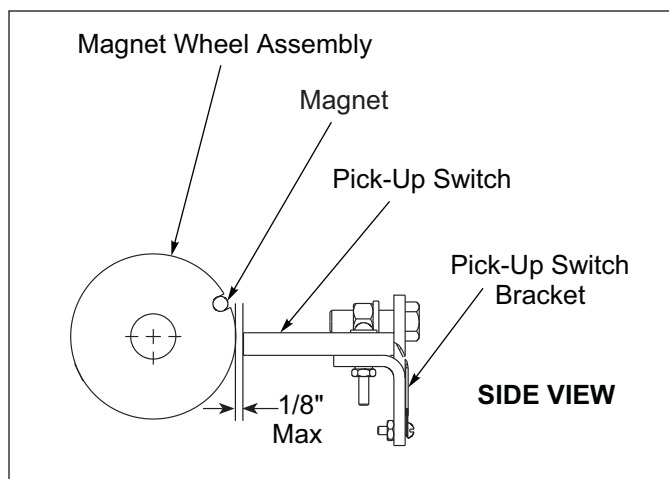

Figure 2-41: Pick-Up Switch Detail
6. Adjust the Pick-Up Switch and Pick-Up Switch Bracket so the centerline of the Magnet Wheel Assembly and Pick-Up Switch are horizontally and vertically aligned with maximum 1/8" between the Magnet Wheel Assembly and Pick-Up Switch. Tighten all Screws. See Figures 2-41 and 2-42.